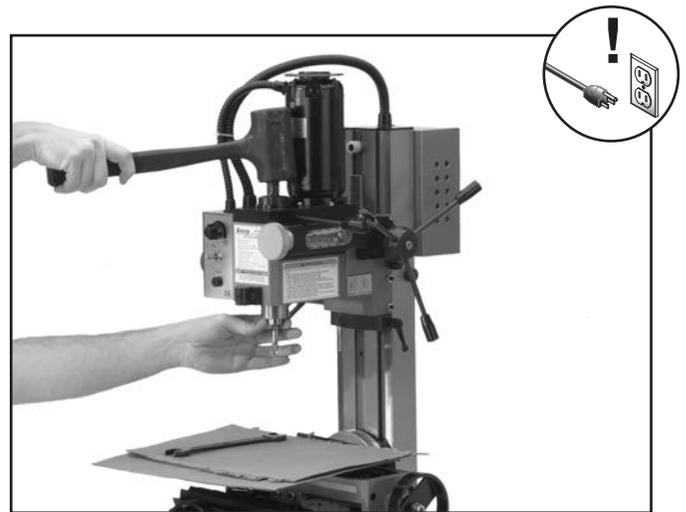

Figure 17. Collet removal.
5. Using the brass hammer, tap the drawbar to unseat the taper (see Figure 17).